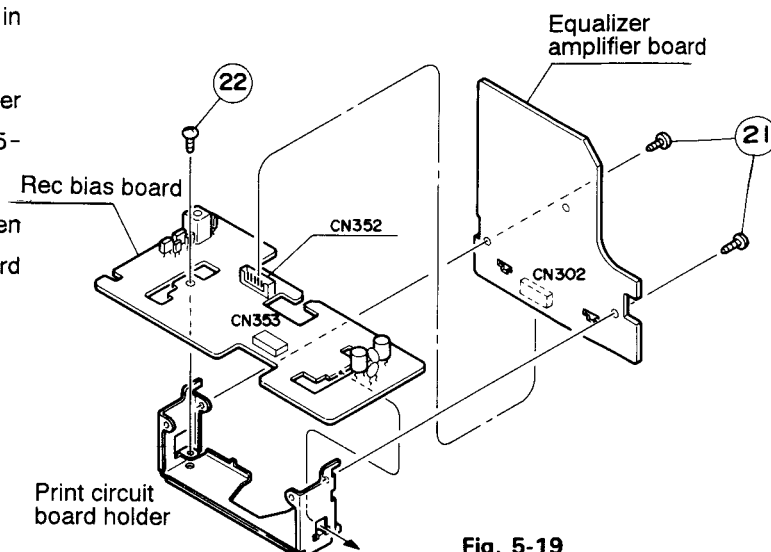

Fig. 5-19
1. Turn over the cassette mechanism section and remove two screws ⑱ securing the Rec amplifier board. Pull and remove connector CN324 from the mechanism control board and CN329 from the Rec bias board assembly.
2. Remove two screws ⑲ securing the mechanism control board. Then, remove connector CN373 from connector CN303 on the Rec bias board and connector CN371 from the cassette mechanism.
3. Remove the screw ⑳ securing the Rec bias board assembly and the flexible wire coming from the rec/play head from connector CN301.
5. Remove two screws ㉑ securing the equalizer amplifier board and remove connector CN302 from CN352 (Fig. 5-19).
6. Remove the screw ㉒ securing the Rec bias board then remove the Rec bias board from the Print circuit board holder (Fig. 5-19).